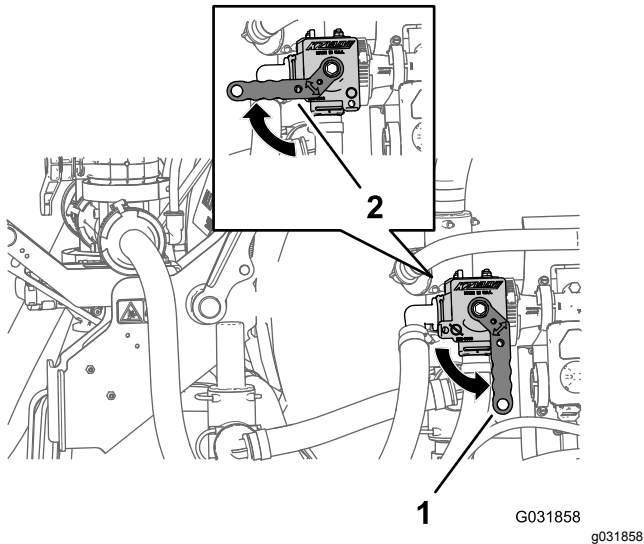

Figure 248
4. Open the fluid-shutoff valve for the eductor by rotating the handle counterclockwise to the OPEN position (Figure 248).
Note: To shut off the flow of fluid to the eductor, rotate the handle of the fluid-shutoff valve clockwise 90 degrees to the CLOSED position (Figure 248).